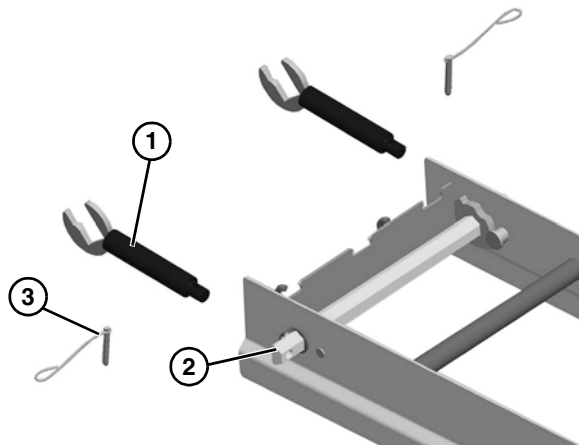

Figure 25
2. Attach nose bar idler shaft hands (Figure 25, item 1) to the tip up shaft (Figure 25, item 2) with a pull pin (Figure 25, item 3).